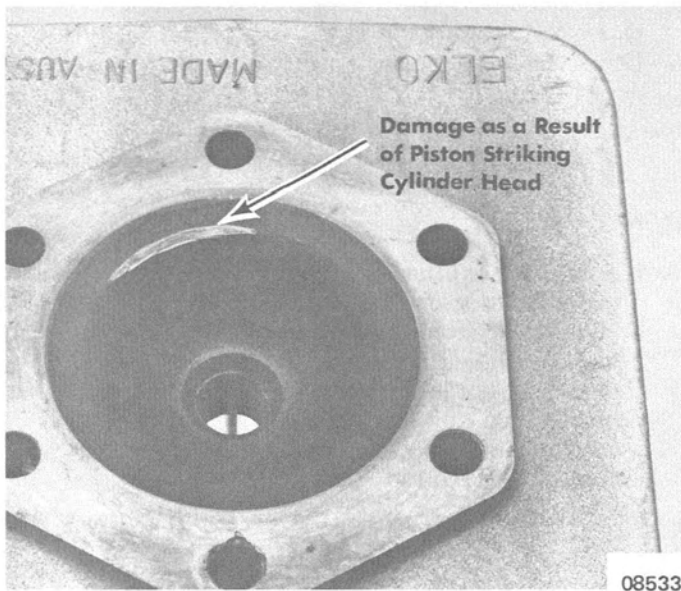

Figure 3. Damaged Cylinder Head
4. Inspect internal surface of cylinder heads for possible damage (as a result of pistons striking cylinder heads). (Figure 3)